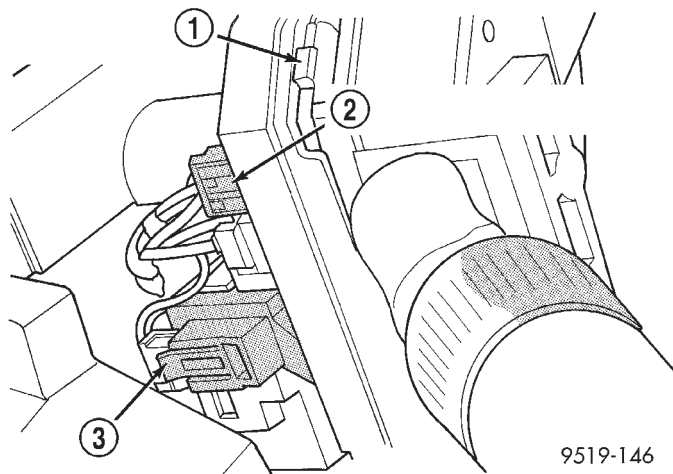
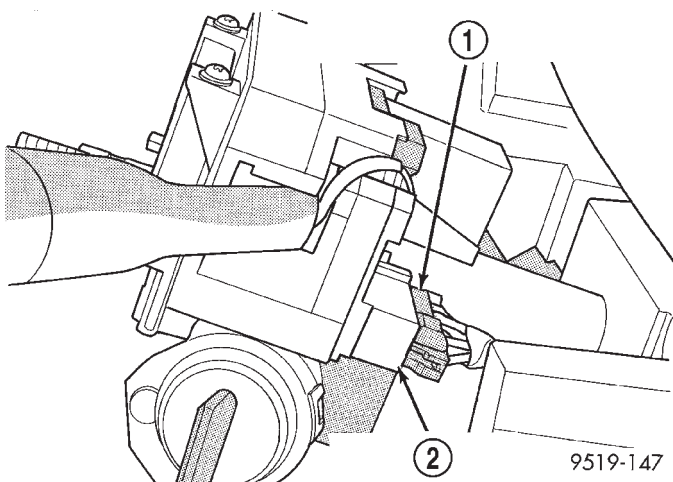
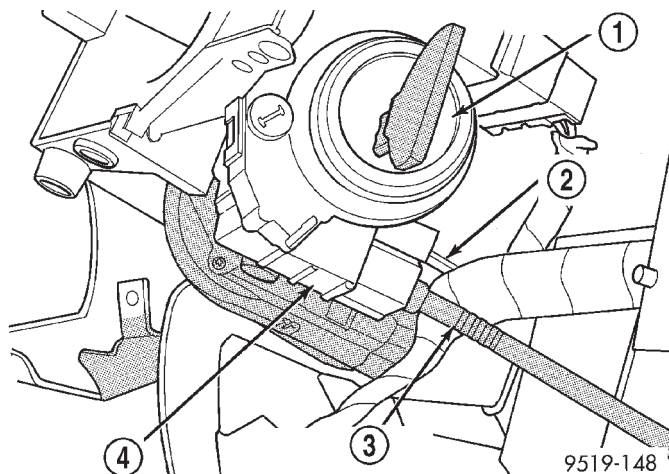
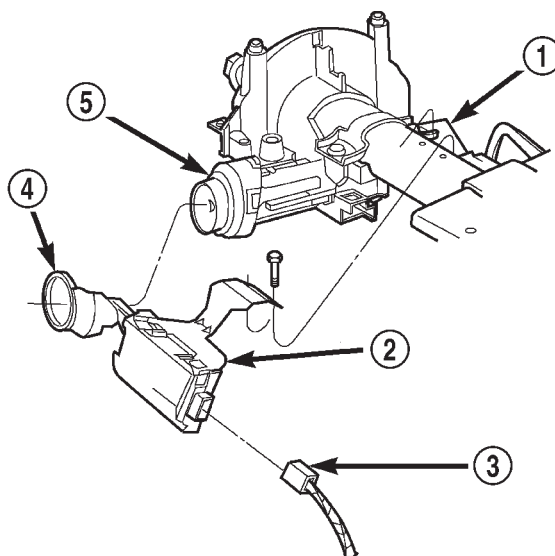

Fig. 19 Wiring Harness Connections To Ignition And Multi-Function Switch
Fig. 20 Wiring Harness Connection To Multi-Function Switch
Fig. 21 Shifter/Ignition Cable At Lock Cylinder Housing
Fig. 22 Sentry Key Immobilizer Module
(23) Remove the trim ring for the key cylinder from the lock cylinder housing.
(24) Remove the 2 wire wiring harness connectors from the back of the ignition switch (Fig. 19). Then remove the 2 wiring harness connector from the multi function switch (Fig. 19) and (Fig. 20).
(25) Depress the locking tab on the shifter/ignition interlock cable (Fig. 21) and remove the cable from the key lock housing.
(26) Remove routing clip holding wiring harness to jacket of steering column.
(27) If equipped with the optional Sentry Key Immobilizer System, remove the SKIM module from the steering column (Fig. 22).
(7) If equipped with the optional Sentry Key Immobilizer System, install the SKIM module (Fig. 22) on the steering column.
(8) Install wiring harness connector on SKIM module.
(9) Install the shifter/ignition interlock cable (Fig. 21) in the lock cylinder housing.
(10) Route wiring harness on steering column and install routing clip in bottom of steering column jacket.
(11) Install multi and 2 wire wiring harness connectors on the back of the ignition switch (Fig. 19). Then install the 2 wiring harness connectors on the multi function switch (Fig. 19) and (Fig. 20).